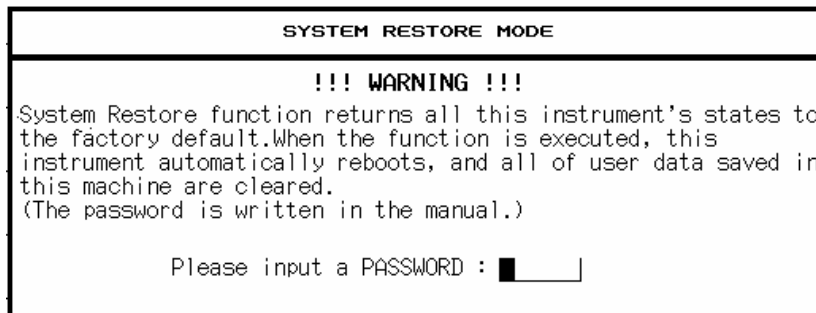

Fig. 8-40: Message when the <SYSTEM RESTORE> key is pressed
- (1) Press the [SYSTEM] switch. Then, press the <SYSTEM RESTORE> key on the soft key <MORE 4/4> page to display the window shown in Figure 8-40.